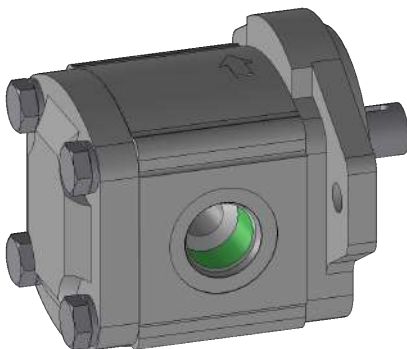

Figure 11. Connections.
**NOTE :** Colors are used to denote connections between elements, as depicted in the figure 11 above with the highlighted green color.